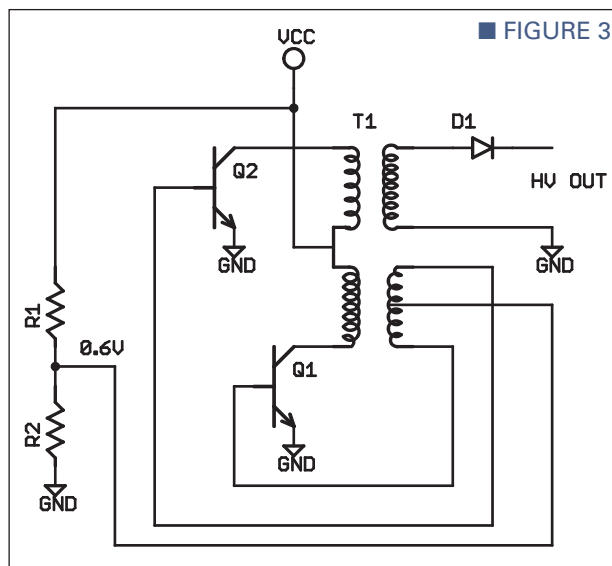

FIGURE 3
1. Generate a square wave and increase the voltage with a transformer. You can find simple circuits like Figure 3, but those are no good because the transistor turn-off time is as long or longer than the turn-on time. During the switching time, both transistors are conducting which heats the transistor and burdens the power supply. The preferred circuit is explained in the SGSThompson application note on the SGS1525A integrated circuit (www.datasheetcatalog.org/datasheet/SGSThompsonMicroelectronics/mXxyxw.pdf).